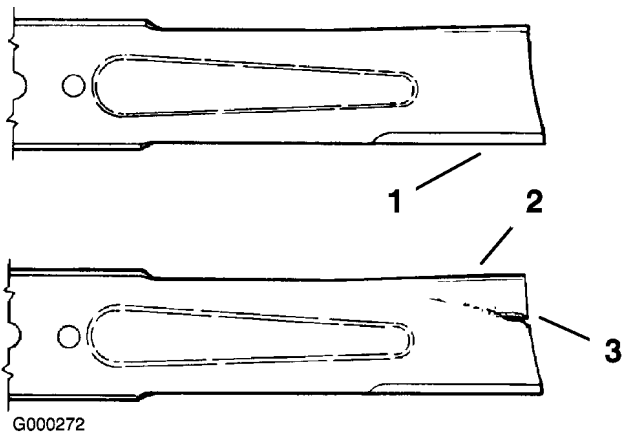

Figure 81
1. Inspect the cutting edges (Figure 81). If the edges are not sharp or have nicks, remove and sharpen the blades. Refer to Sharpening the Blades.
2. Inspect the blades, especially the curved area (Figure 81). If you notice any damage, wear, or a slot forming in this area (Figure 81), immediately install a new blade.